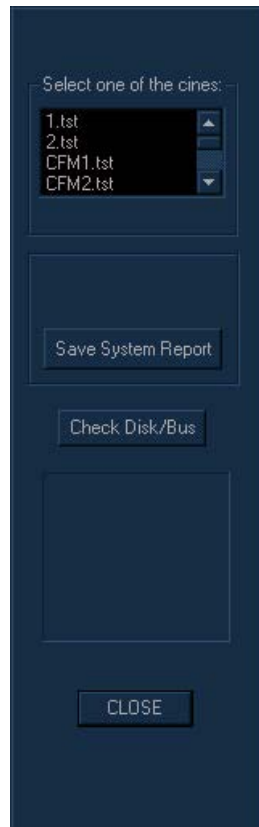

Figure 7-53 Benchmark Testing Options
- 2) Trackball to the **Computer Testing** button and press **Select**. The options shown in Figure 7-53 on page 7-80 are displayed.